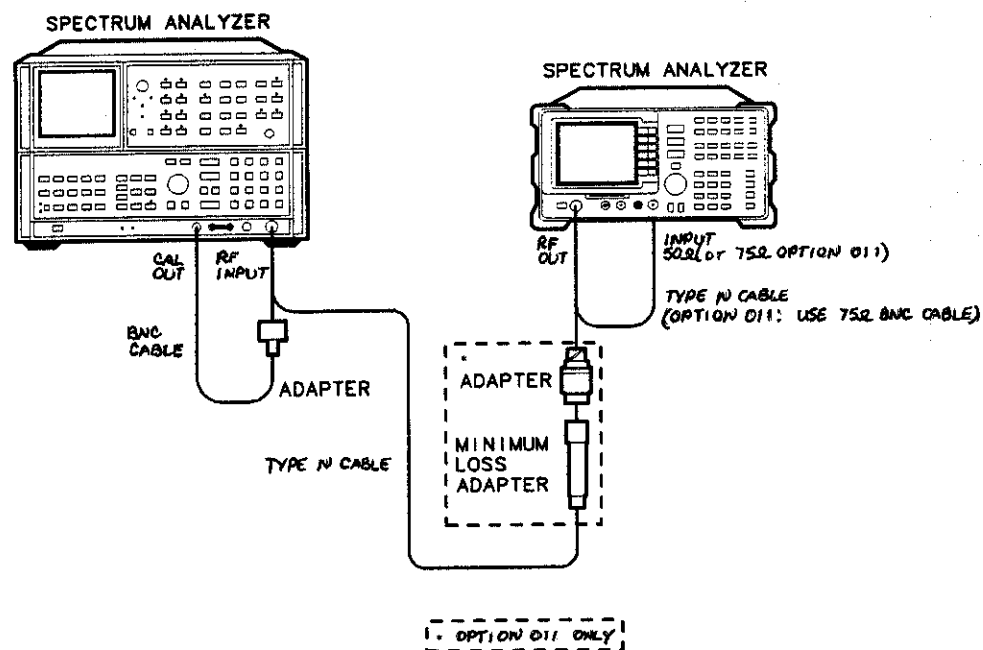

Figure 1-27. Non-Harmonic Spurious Outputs Test Setup
1. Connect the Type N cable between the RF OUT 50 Ω and INPUT 50 Ω connectors on the spectrum analyzer. See Figure 1-27.
7. Connect the Type N cable from the tracking generator output to the microwave spectrum analyzer RF INPUT as shown in Figure 1-27.